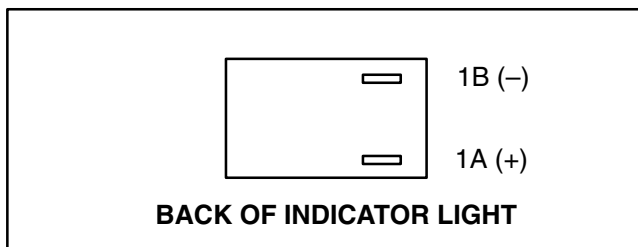

Figure 11
1. Apply 12 VDC to terminal 1A (Fig. 11).
2. Ground terminal 1B (Fig. 11).